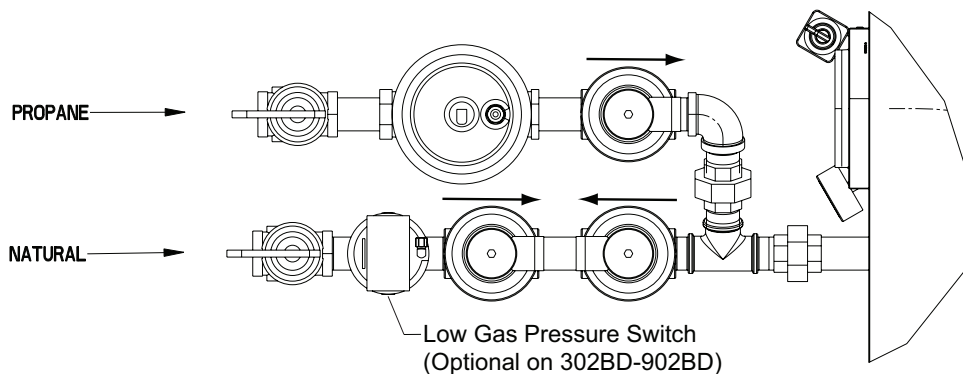

Fig. 2: Gas Supply Connection - Top View
**NOTE:** Reset Low Gas Pressure Switch (when equipped) if necessary. Refer to Fig. 2 for location.